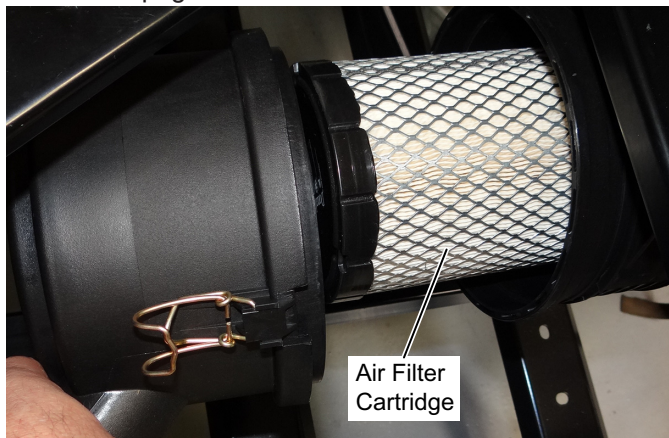

Fig. 2 Air Filter
3. Remove the filter from the housing (Ref. Fig. 2).